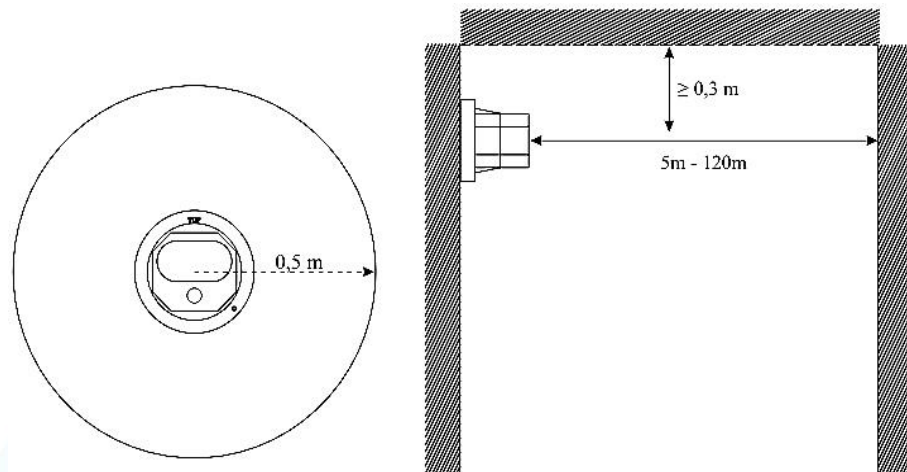

Fig.2
- During installation, the detector must be positioned according to the distances indicated in Fig.2!!